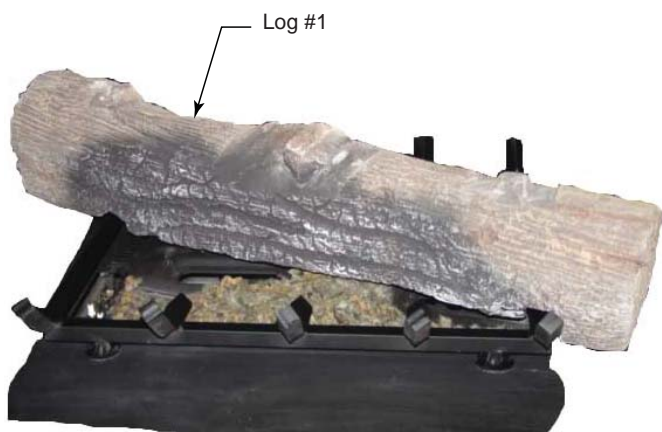

Figure 60
NOTE: Log #1 is designed to not be symmetrical. Place log #1 aligning the two (2) pins provided making sure to fit the notches in the bottom of the log over the sides of the grate so that it sits firmly in place. The log will rest on the grate bar about 1/4" over the top of the burner surface. *Figure 60*